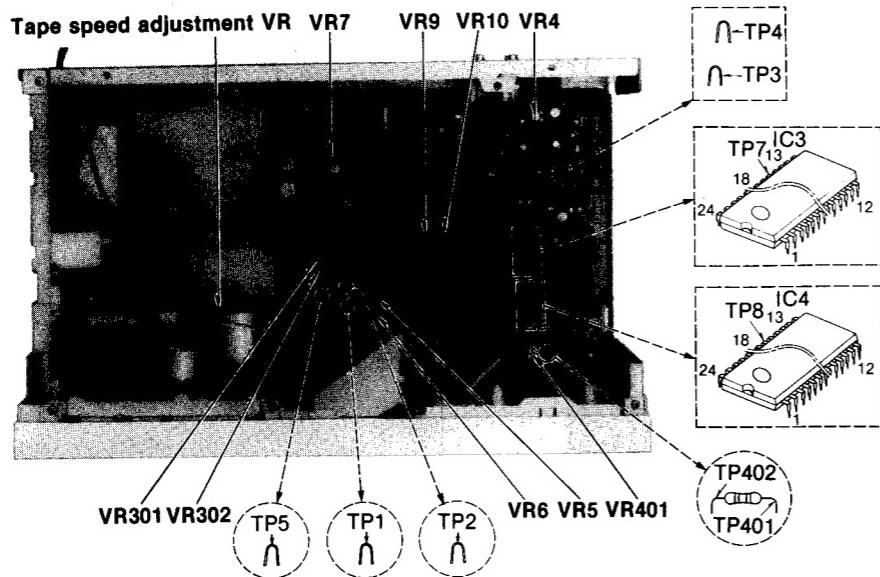

Fig. 1
6. If measured value is not within the standard value, adjust it by using the tape speed adjustment VR shown in Fig. 1.
1. If the measured value is not within standard the adjust VR9 (L-CH) or VR10 (R-CH) (See fig. 1).